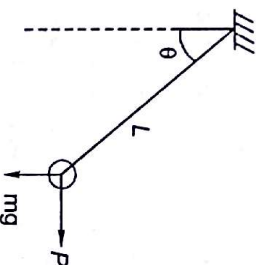

Fig. 3.61
3.4 A ball of mass m is tied to a string of length L as shown in Fig. 3.61. It is pulled by a force P so that string makes an angle θ with the vertical, what is P ?